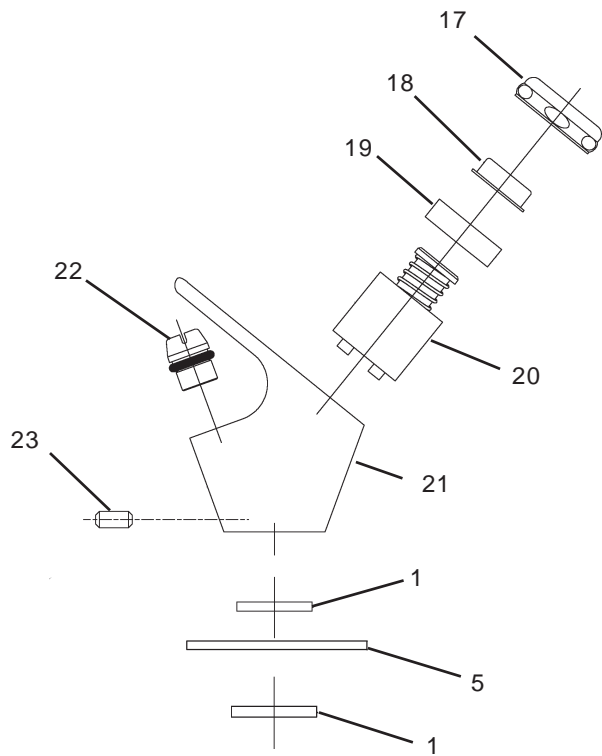

FIG. 3
STREAM HEIGHT: Stream height is factory set at 45-50 PSI. If supply pressure varies greatly from this, remove items 7 and 8 (see figure 3) and adjust screw on item 17. Clockwise adjustment will raise stream and counter-clockwise adjustment will lower stream. For best adjustment, stream should hit basin approx. 6-1/2" from bubbler.
See Fig. 3